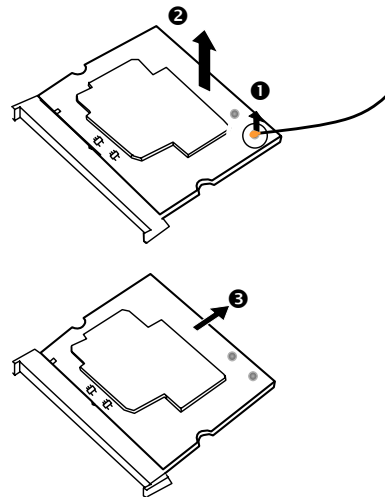

Figure 2-13 Remove the wireless card
3. Disconnect the wireless card's antennae first (❶). Then pull up the wireless card (❷) and remove the wireless card (❸). (Figure 2-13)